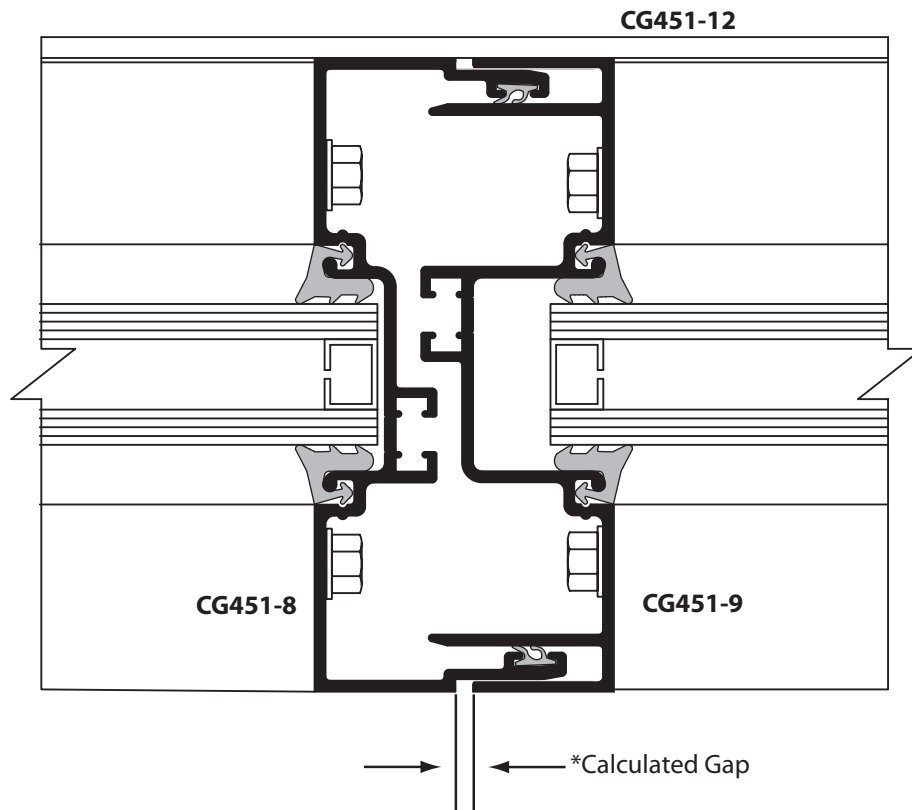

FIG. 19
*Determined by job conditions, project specifications and temperature at the time of installation. Expansion mullions allow for 3/8" maximum movement. Reference **FIG. 19**
Frames can be shop fabricated and assembled into panels for field installation. Each panel must have at least one deep pocket for glazing. Two shallow pockets should never be facing each other. Expansion mullions should be used in elevations exceeding 24 feet in length to allow for thermal movement. See **FIG. 19, page 17**. Install shim as required.